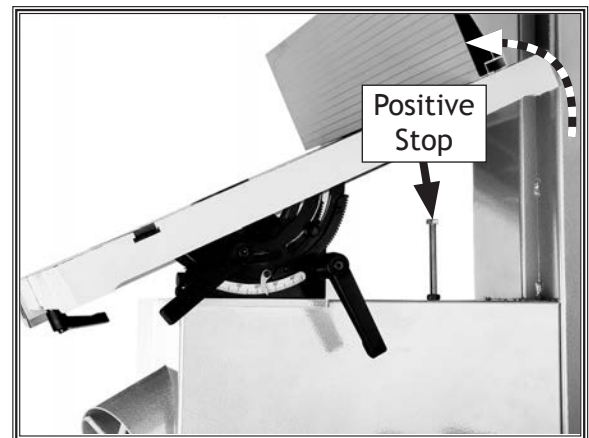

Figure 75. Table tilted to approximately 10° right to adjust positive stop.
The positive stop (see **Figure 75**) allows you to quickly return the table to 0° from a right-tilt setting. The hex bolt height can be adjusted for table calibration, or it can be lowered to allow a left-tilt setting of up to 5°.
2. Loosen hex nut, then rotate adjustment bolt until table contacts bolt when at 0° (see **Figure 75**).